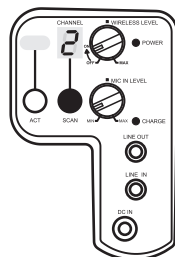

Fig. 3
- (B) Manually Selecting a Channel: Press and hold the Channel SCAN button for 1 second. Channel indicator blinks and displays current channel. During channel blinking, press and hold Channel SCAN button to force the receiver to change to the next available programmed channel every one or two blinks. Once blinking stops, the new channel is saved automatically. See Fig. 3.